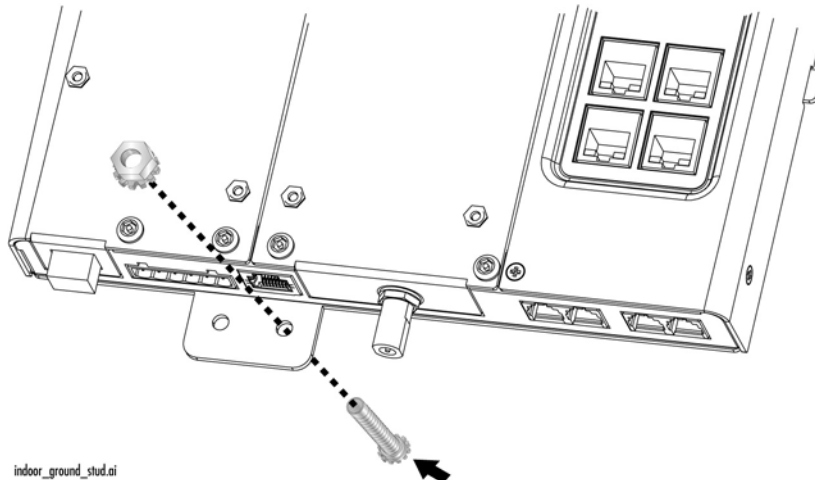

Figure 13. Mounting the Grounding Assembly on the **Right** Mounting Hole
1. Put the included #8-32 x 0.5 in. SEMS screw through the **right** chassis grounding hole in the chassis, as shown in Figure 13
2. Secure the screw with a #8-32 Kepnut (not provided), as shown in Figure 13..